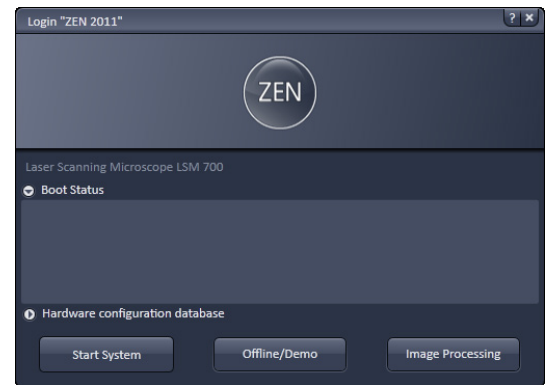

Fig. 7 Starting the ZEN software – The Login "ZEN" dialog with Boot Status field expanded
A third option, **Offline/Demo**, becomes available (Fig. 7), once the **Boot Status** field is expanded by pressing the **expansion** symbol (triangle).
- **Start System** for system control, data / image acquisition / recording and analysis. The whole microscope system will be initialized. The progress of the boot process will be displayed by the blue time tab. During booting the status of the system will be displayed in the **Boot Status** window and the single components will be listed which have been or are currently being checked during the boot process (Fig. 7).